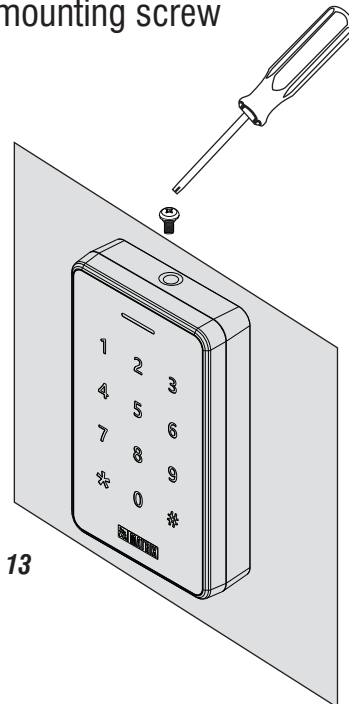

Figure 13
3. Tighten the screw with 2 kgf-cm torque as shown in figure 13.